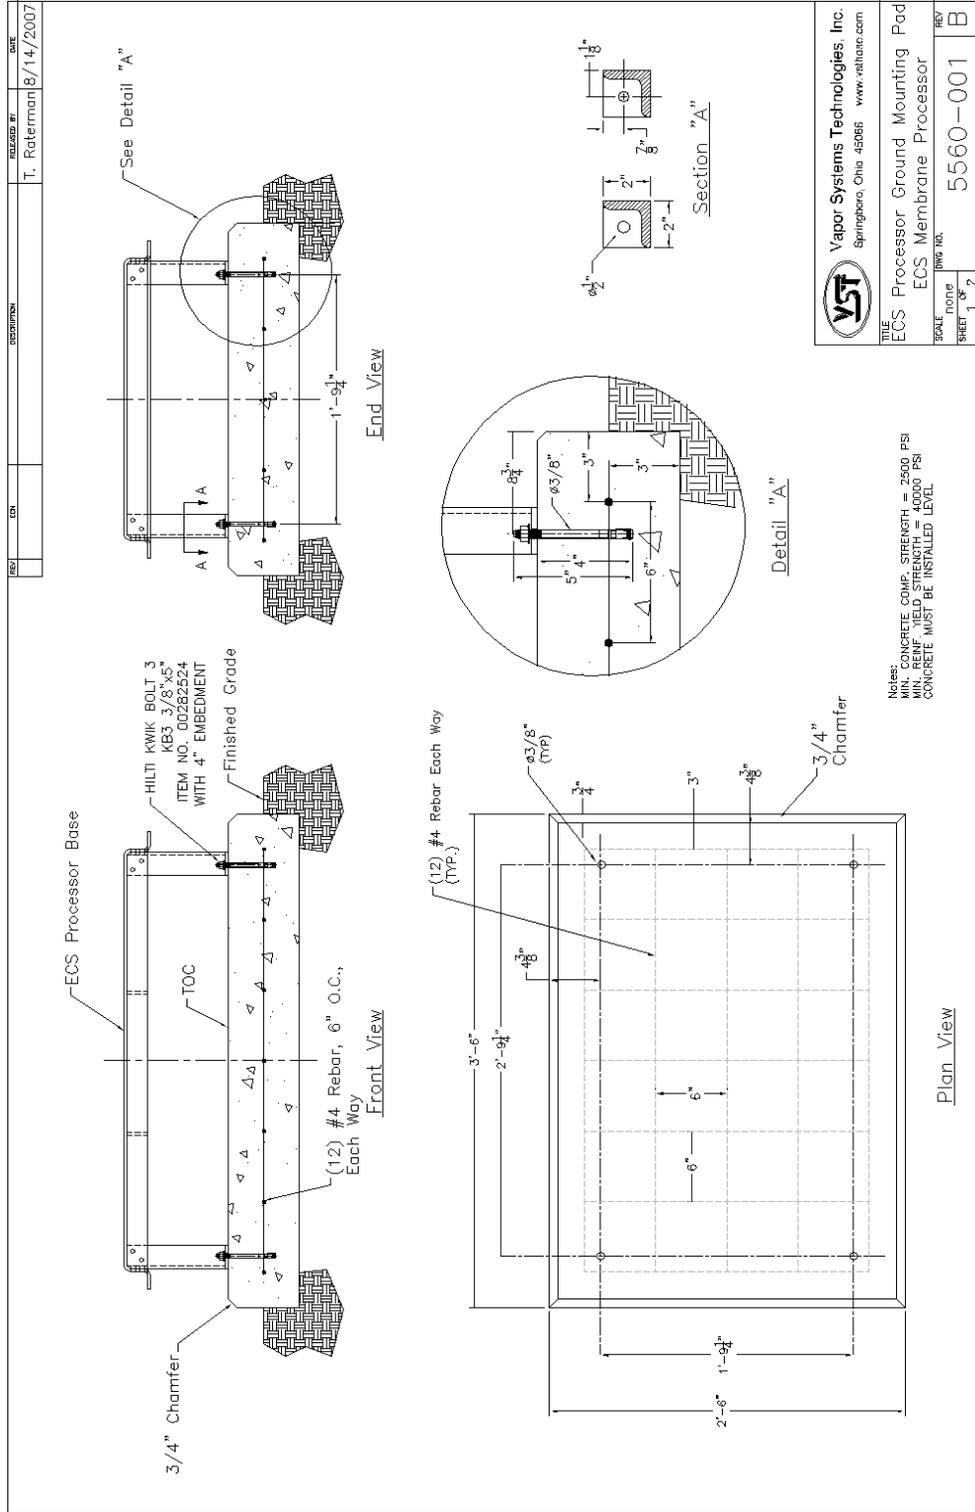

Figure 10: Processor Ground Mounting Pad
2. For non-seismic applications, VST recommends using the HILTI KWIK BOLT, KB3 3/8" X 5", item #00282524 as **shown in Figure 10: Section 14 / Page 33** or an approved equal.